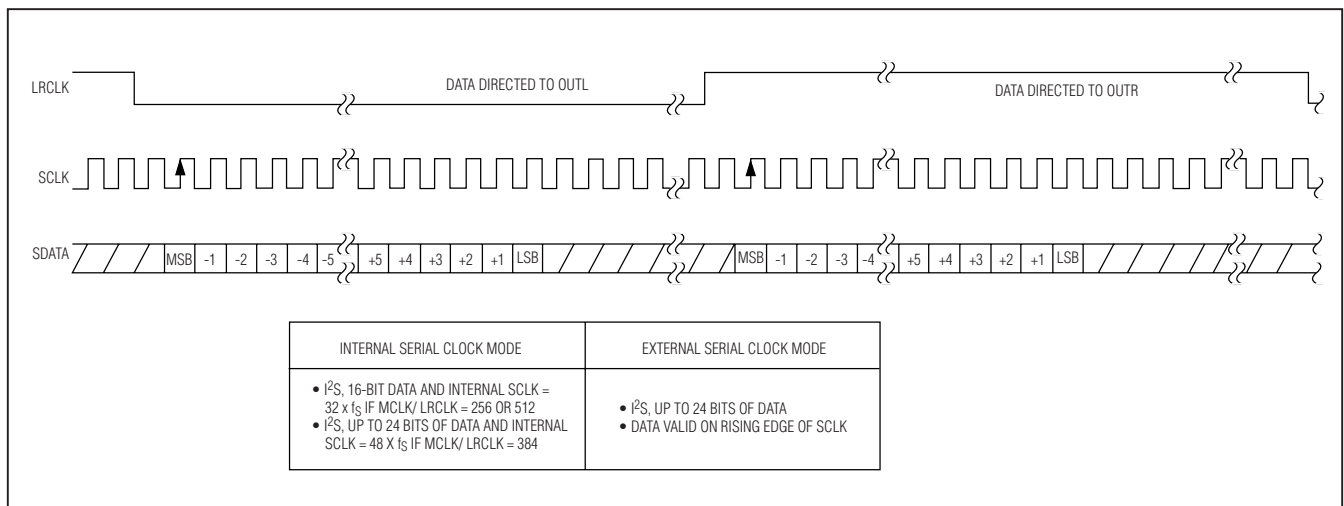

Figure 4. MAX5556 Data Format Timing
**Note 6:** In external SCLK mode, LRCLK duty cycles are not limited, provided all data formatting requirements are met. See Figure 4.
**Note 8:** The SCLK/LRCLK ratio can be set to 32, 48, or 64, depending on the MCLK/LRCLK ratio selected. See Figure 4.
The serial interface strobes data (SDATA) in on the rising edge of SCLK, MSB first. The MAX5556 supports four different data formats, as detailed in Figure 4.
LRCLK is the left/right clock input signal for the 3-wire interface and sets the sample frequency ( $f_s$ ). On the MAX5556, drive LRCLK low to direct data to OUTL or LRCLK high to direct data to OUTF (Figure 4). The MAX5556 accepts data at LRCLK audio sample rates from 2kHz to 50kHz.
The MAX5556 accepts data with an I2S left-justified data format, accepting 16 or 24 bits of data. SDATA accepts data in two's complement format with the MSB first. The MSB is valid on the second SCLK rising edge after LRCLK transitions low to high or high to low (Figure 4). Drive LRCLK low to direct data to OUTL. Drive LRCLK high to direct data to OUTF. The number of SCLK pulses with LRCLK high or low determines the number of bits transferred per sample. If fewer than 24 bits of data are written, the remaining LSBs are set to 0. If more than 24 bits are written, any bits after the LSB are ignored.